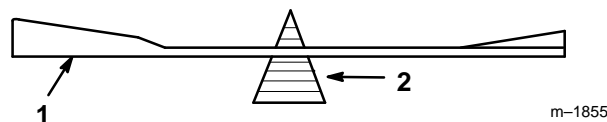
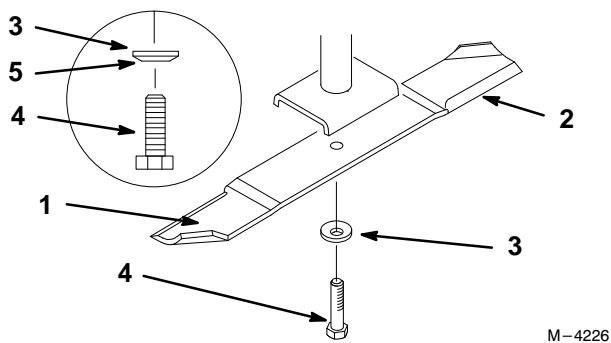

Figure 19
Figure 20
1. Hold the blade end using a rag or thickly-padded glove. Remove the blade bolt, spring disk and blade from the spindle shaft (Fig. 20).
2. Check the balance of the blade by putting it on a blade balancer (Fig. 19). If the blade stays in a horizontal position, the blade is balanced and can be used. If the blade is not balanced, file some metal off the end of the sail area only (Fig. 20). Repeat this procedure until the blade is balanced.
1. Install the blade onto the spindle shaft (Fig. 20).
2. Install the spring disk and blade bolt (Fig. 20).